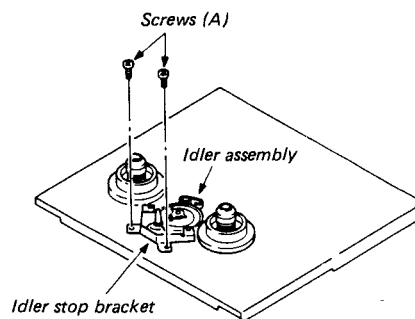

Fig. 1-3-37 Removal of idler stop bracket
- * Screws (A) and (B) are different in length.
2. Removal of idle stop bracket. (Fig. 1-3-37).